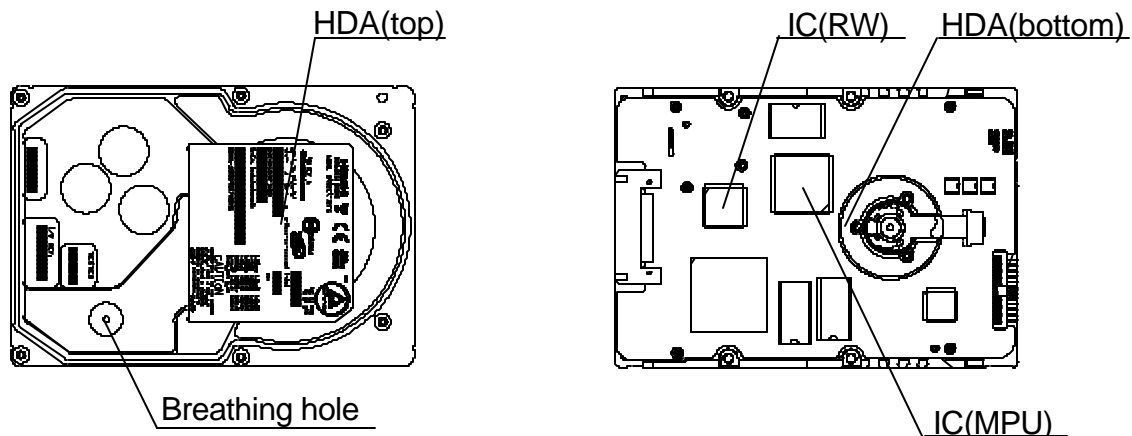

Figure 7.4 Temperature Measurement Points
- 8.4.8 Do not cover the breathing hole on the surface of the drive with use of a seal. (The position of the breathing hole is shown in Figure 7.4.)